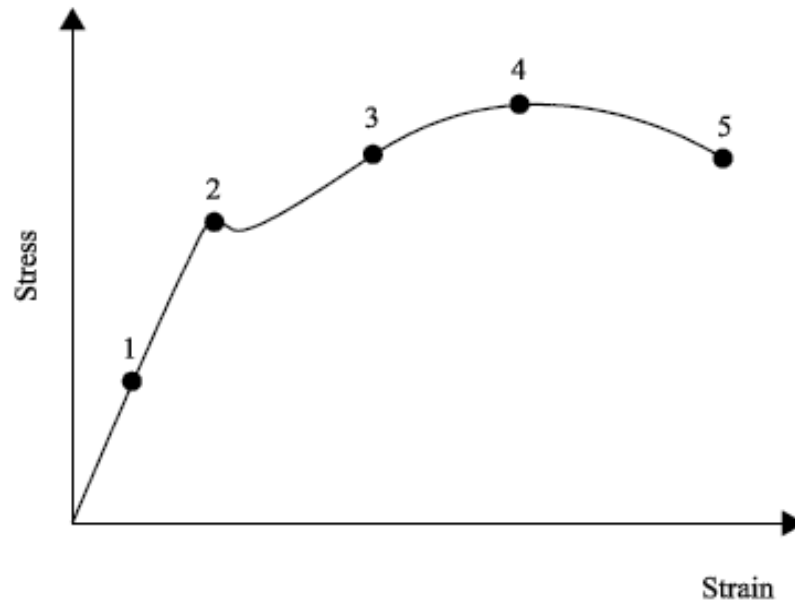

Fig. 4
- 4 (a) Fig. 4 shows a stress-strain curve for a metal.